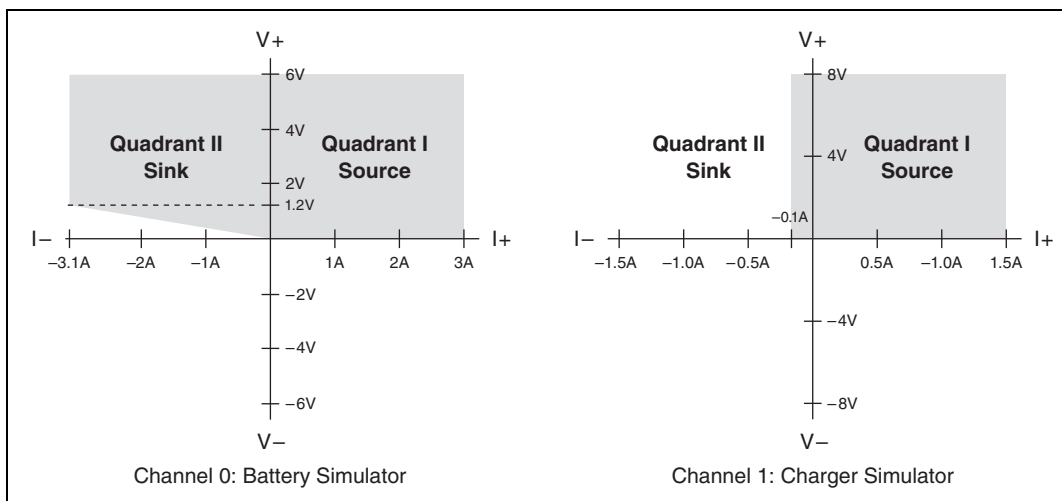

Figure 1. NI PXle-4154 Quadrant Diagram, characteristic
The table below and Figure 1 illustrate the voltage and the current source and sink capabilities of the NI PXIe-4154.
* Current source limits are programmable in Quadrant I (source). Refer to Figure 1.
Note For channel 0 in Quadrant II (sink) when the terminal voltage drops below 1.2 V (sensing at the connector), the maximum sink current derates linearly from -3.1 A, as shown in Figure 1.